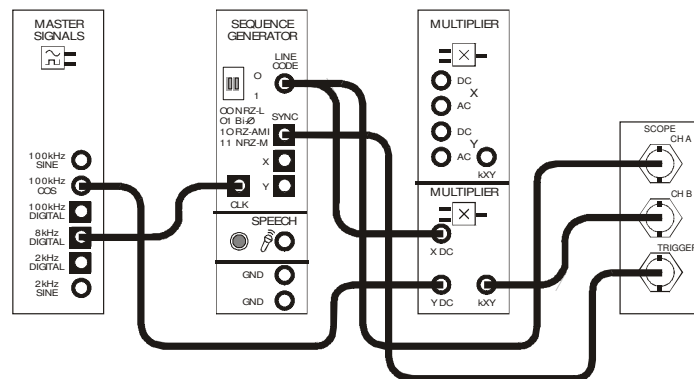

Figure 2
5. Connect the NI ELVIS to the NI Data Acquisition unit (DAQ) and connect that to the personal computer (PC).
12. Connect the set-up shown in Figure 2 below.